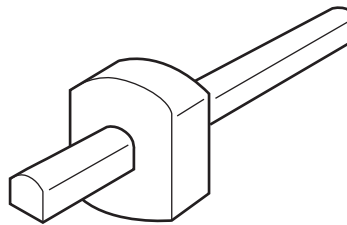

Fig. 3
- 5 Fig. 3 shows an incomplete drawing of a marking gauge.